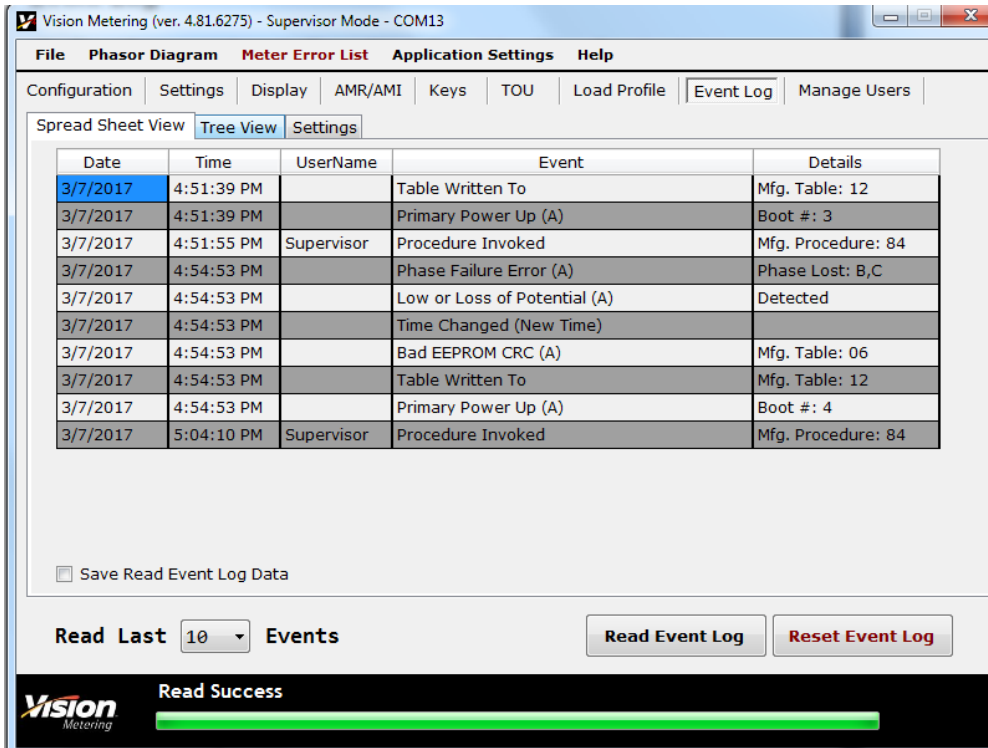
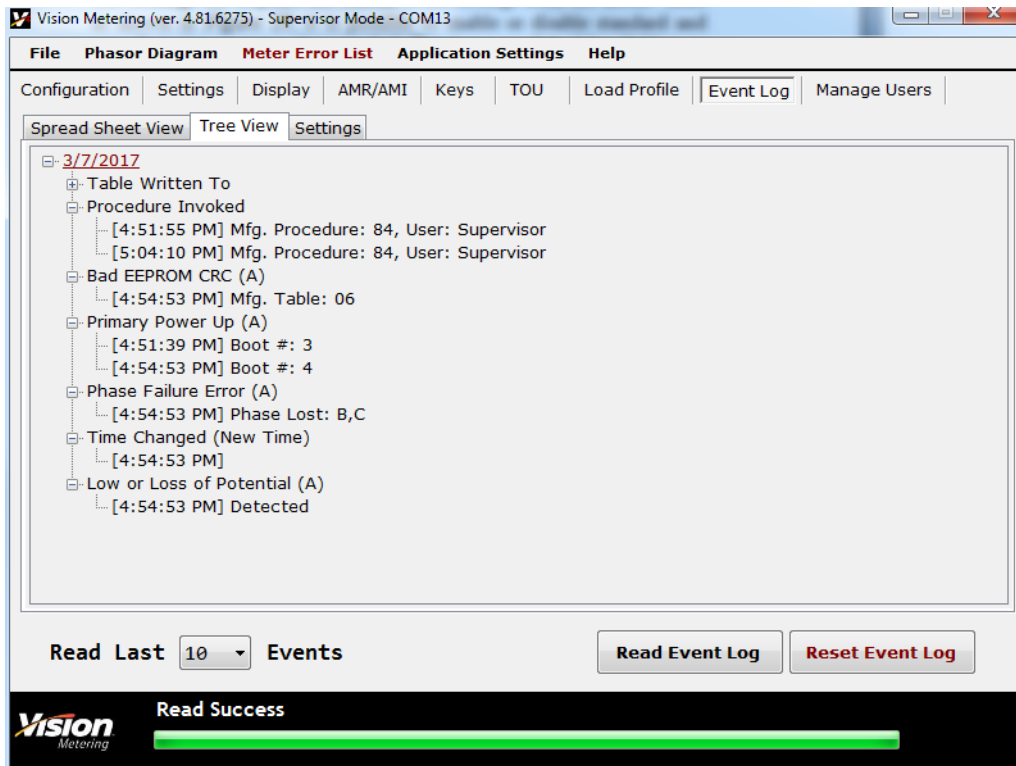

Figure 35
Figure 37
The **Event Log** screen shown in **Figure 35** is in **Spreadsheet View**. From here it is possible to select **Tree View** or **Settings**. The **Tree View** is similar in format and is shown in **Figure 37**.
- To send the chosen event log selections, click the **Program Event Log Settings** button. By clicking on the **Read** tab, it is possible to read the event long by selecting between **10**, **20**, **50**, **100** and **All**. Click the **Read Event Log** button to display data stored on the meter. When reading the events, the screen will populate as shown in **Figure 35**. The fields for **Date**, **Time**, **Username**, **Event** and **Details** will be filled in